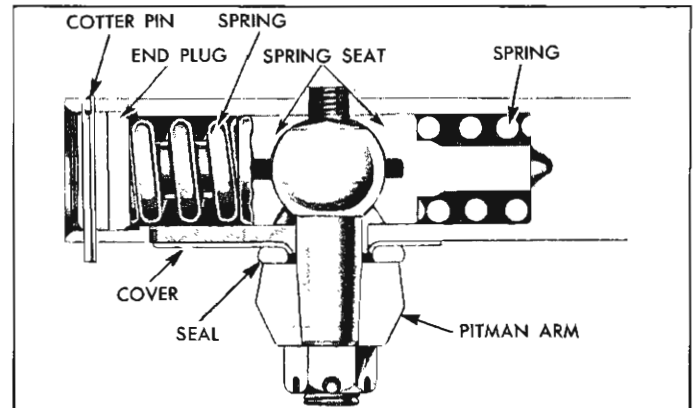

Fig. 58—Cross Section of Relay Rod Ball Joint
- Using a drag link bit, remove end plug from socket and remove spring seat from relay rod (fig. 58).